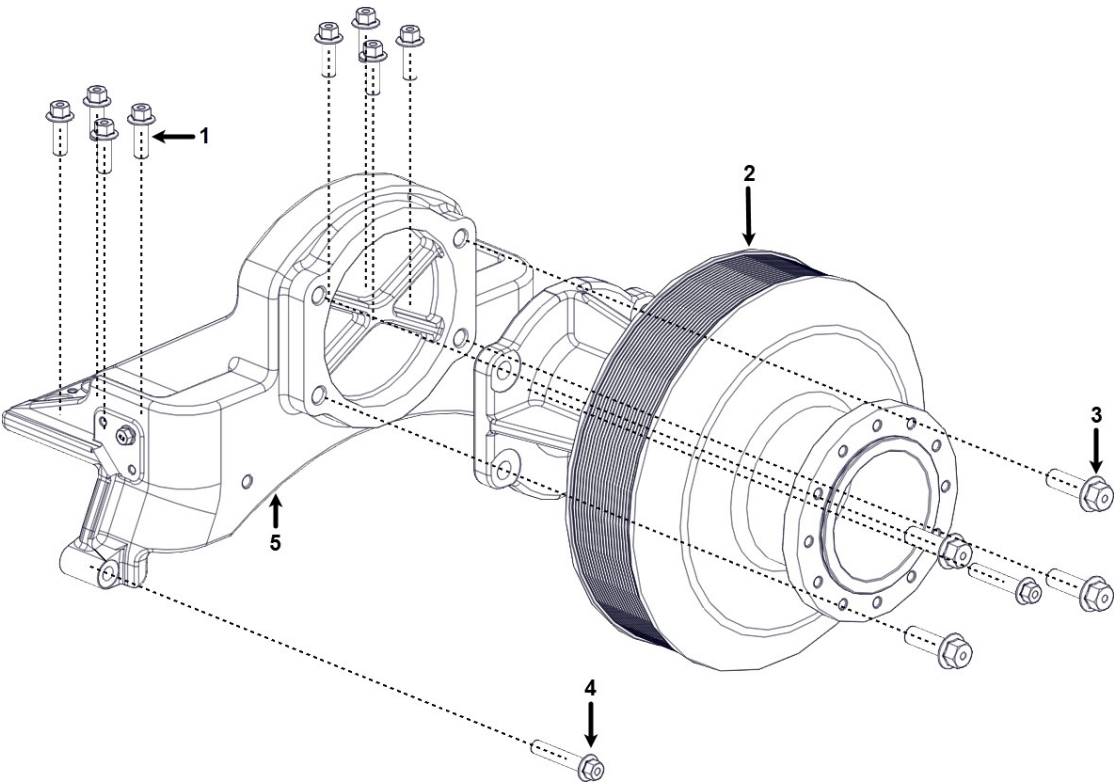

Figure 21. Fan Assembly
2. Remove the four bolts (Figure 21, Item 3).
3. Remove the fan support bracket (Figure 21, Item 2).
4. Remove the bolts (Figure 21, Items 1 & 4).
5. Remove the fan support (Figure 21, Item 5).
1. Place the support bracket (Figure 21, Item 5) onto the top of the cylinder block.
2. Insert and torque down the bolts (Figure 21, Items 1 & 4).
3. Place the fan support bracket (Figure 21, Item 2) onto the fan support (Figure 21, Item 5).
4. Insert and torque down the four bolts (Figure 21, Item 3).